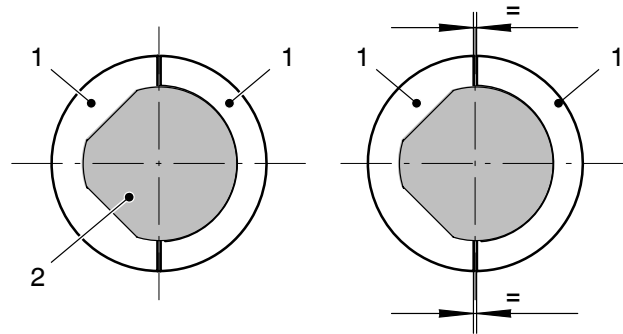

Fig. 7-19
- Turn the coupling half shells (1) such that the diagonal surfaces of the pump shaft (2) rest on those of the coupling half shells (Refer to Fig. 7-19).
- The coupling half shells must be tightened such that the gaps are the same size (Refer to Fig. 7-19).